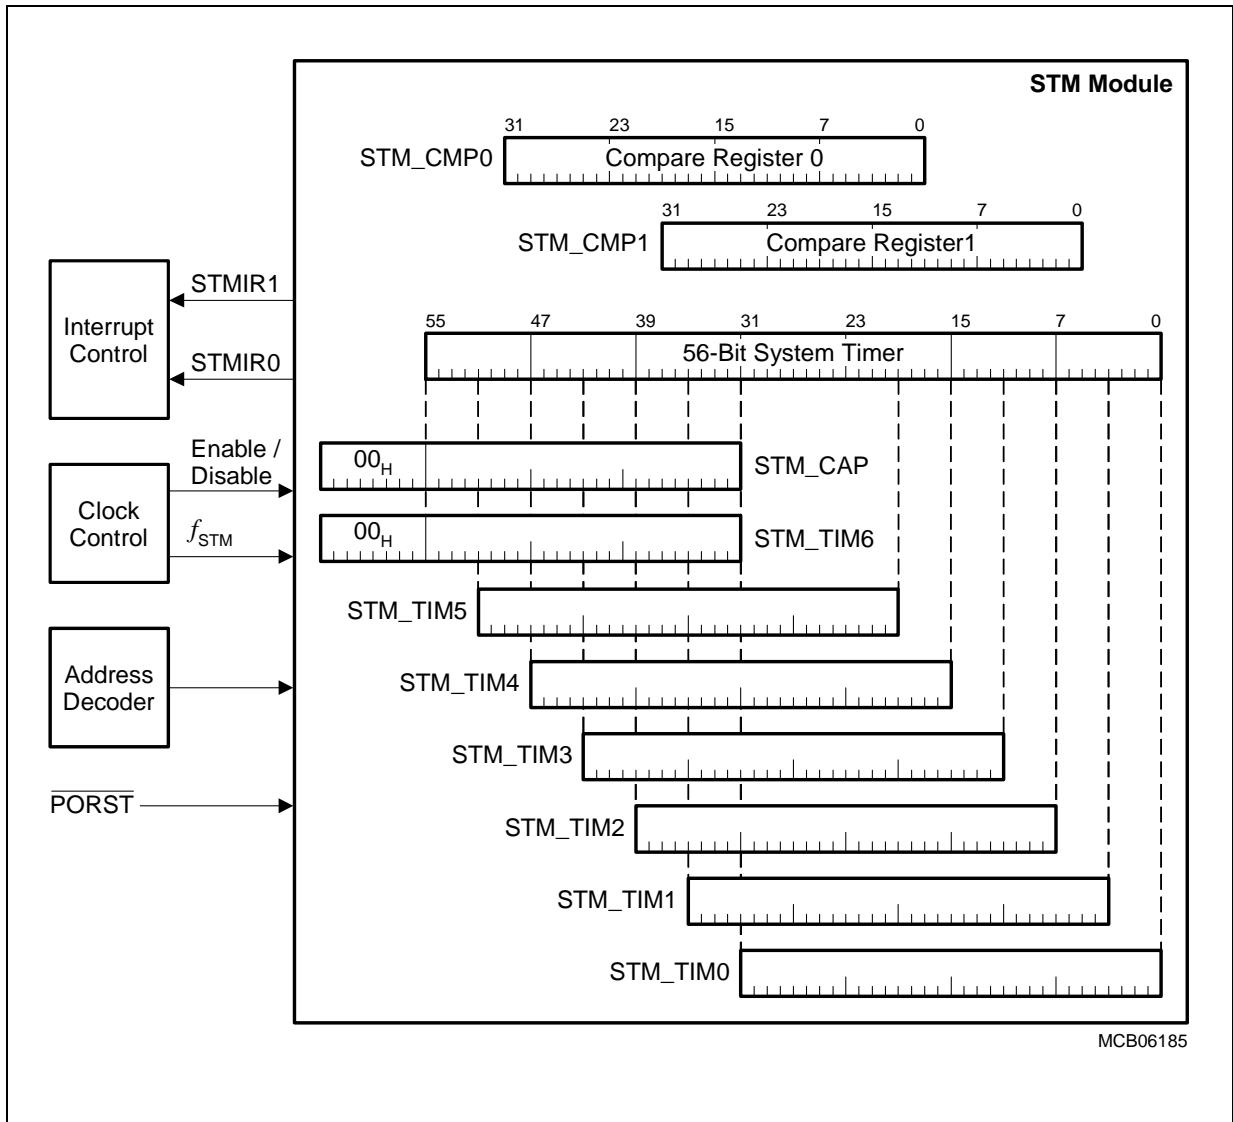

Figure 3-13 General Block Diagram of the STM Module Registers
**Figure 3-13** shows an overview on the System Timer with the options for reading parts of the STM contents.